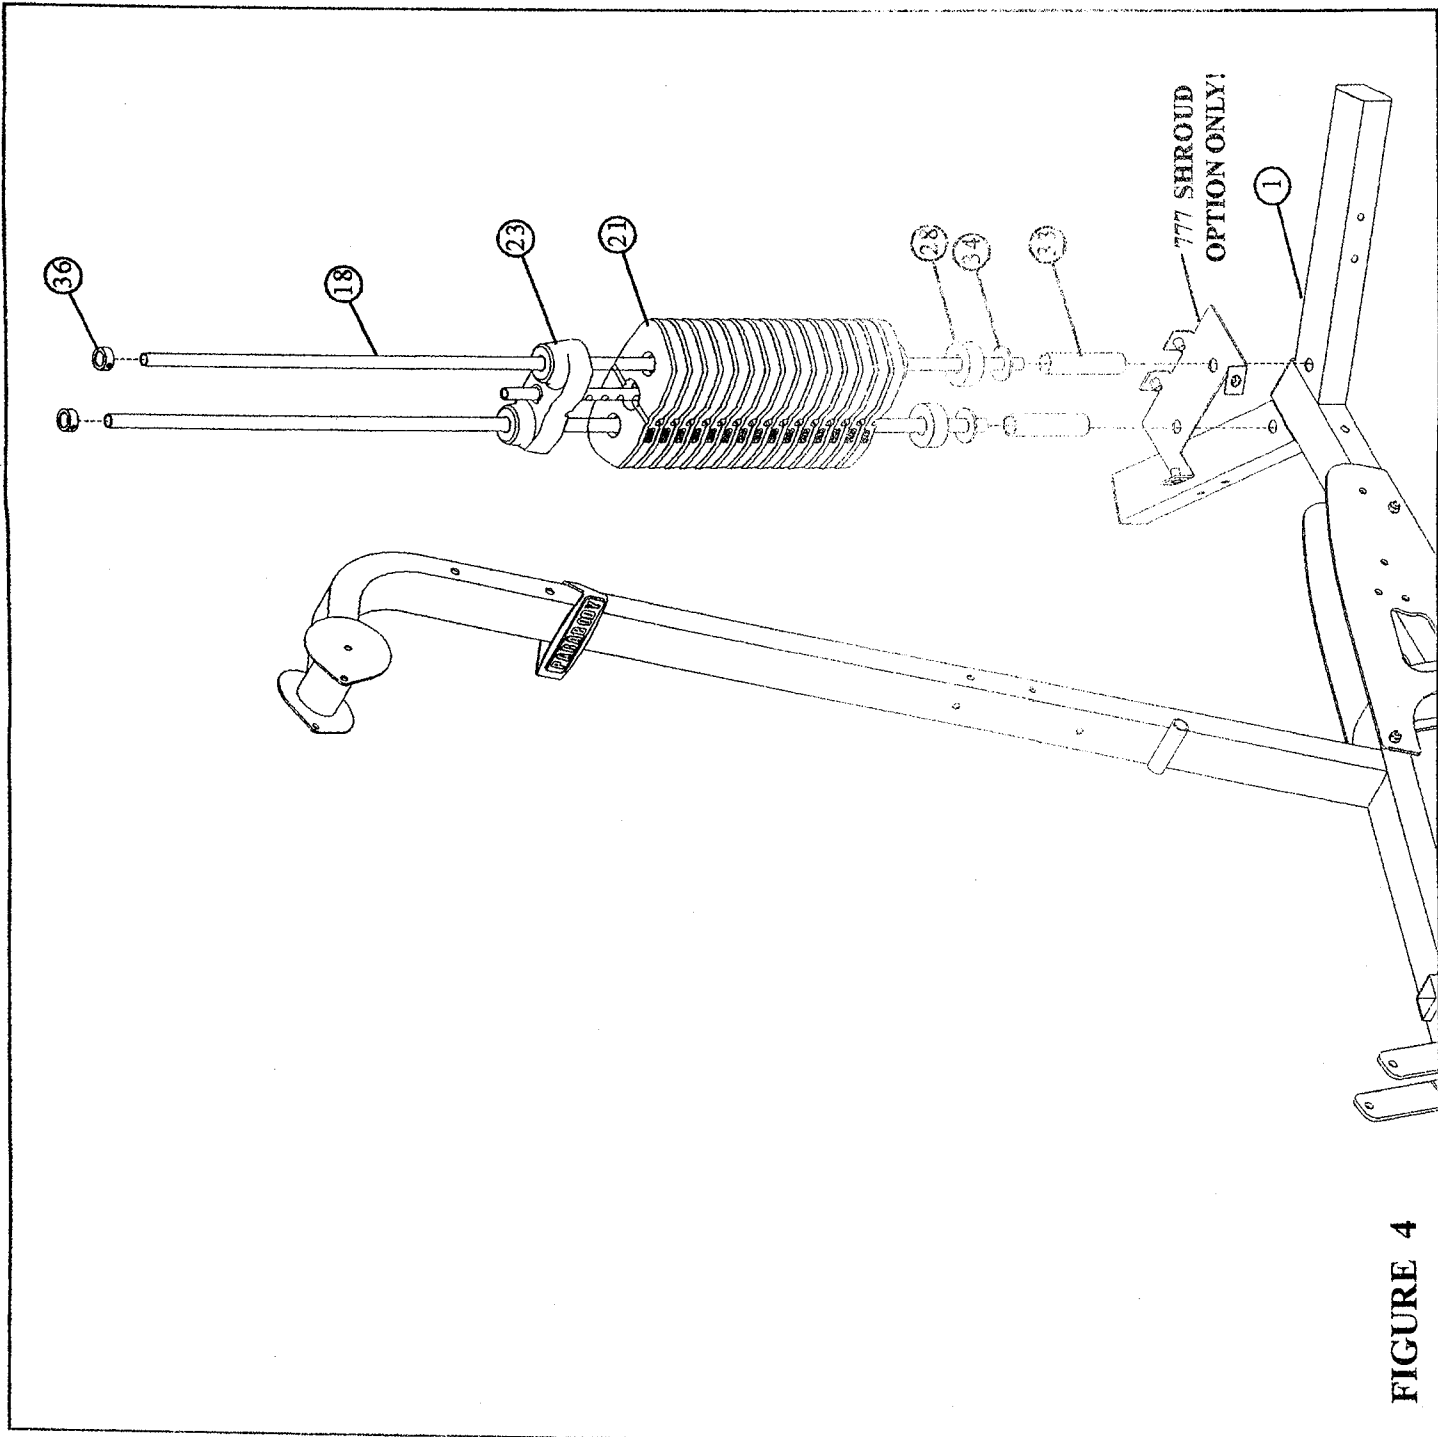

FIGURE 4
- Insert two **GUIDE RODS (18)** into the **BASE (1)** as shown on **FIGURE 4**. (**NOTE:** If the **777 SHROUD OPTION** was purchased, place the **GUIDE RODS (18)** through the **BOTTOM SHROUD BRACKET** (found in **SHROUD OPTION** box) and into the **BASE (1)** as shown in **FIGURE 4**.
- (**NOTE:** Lubricate **GUIDE RODS (18)** with silicon or teflon spray available at most hardware stores.)
- Slide two **WEIGHT STACK SPACERS (33)**, two **3/4" FLAT WASHERS (34)**, and two **WEIGHT STACK CUSHIONS (28)** down over the **GUIDE RODS (18)**.
- Using **EXTREME CARE** slide all fifteen **WEIGHT PLATES (21)** down over the **GUIDE RODS (18)** on to the **WEIGHT STACK CUSHIONS (28)**. Make sure that the **WEIGHT PLATES (21)** are all facing as shown.
- Slide the head plate assembly down over the **GUIDE RODS (18)** onto the weight stack.
- Slide two **SHAFT COLLARS (36)** over the **GUIDE RODS (18)** as shown in **FIGURE 4**.